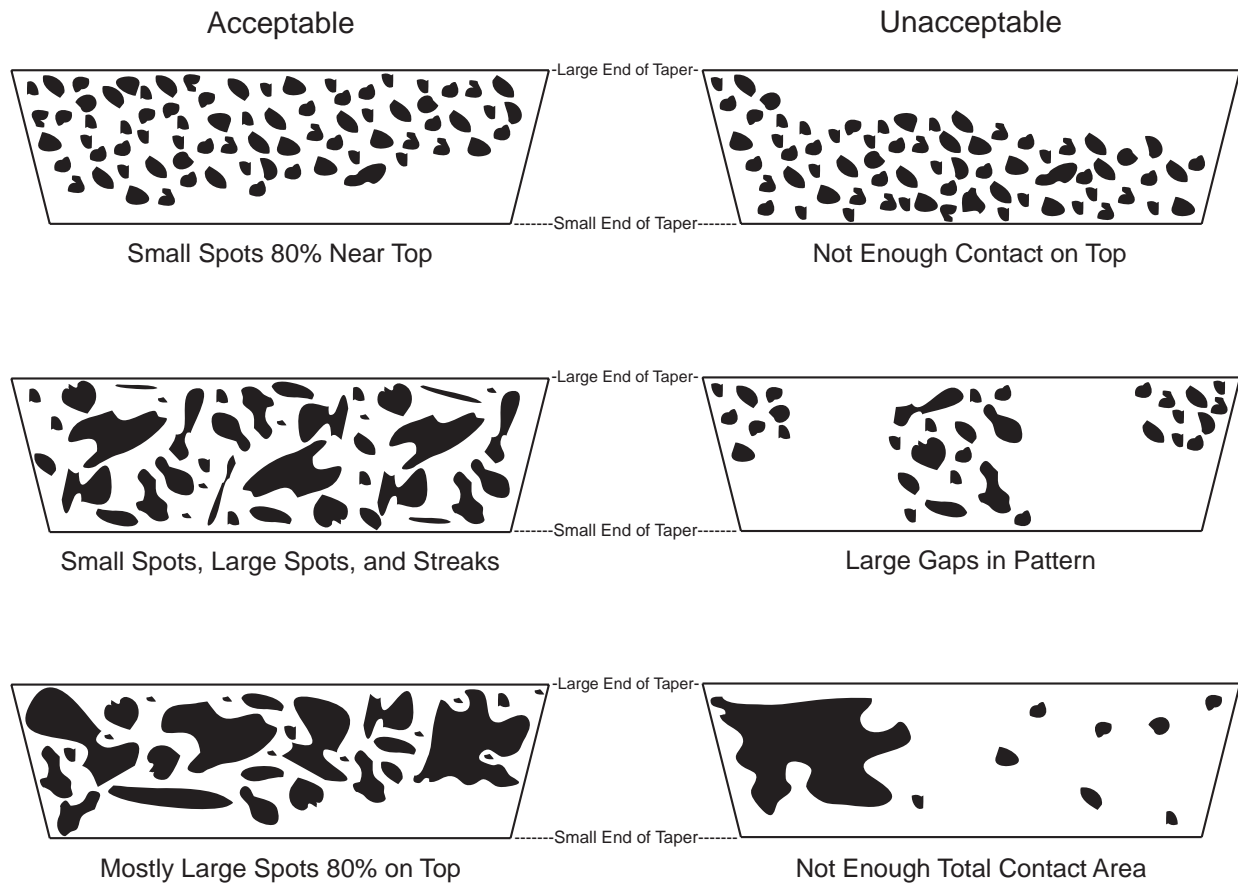

Figure 34. Dye Contact Pattern Samples
6. Evaluate the contact pattern on both tapers. See Figure 34 for guidance on acceptable contact patterns. The surfaces should match approximately 80% of the total tapered area.
Note: It is important that the contact should be biased toward the larger diameter end of both tapers. If contact is predominant at the small end, the shaft may be overstressed locally and may fail. Contact Twin Disc if the taper contact pattern is not in accordance with Figure 34.